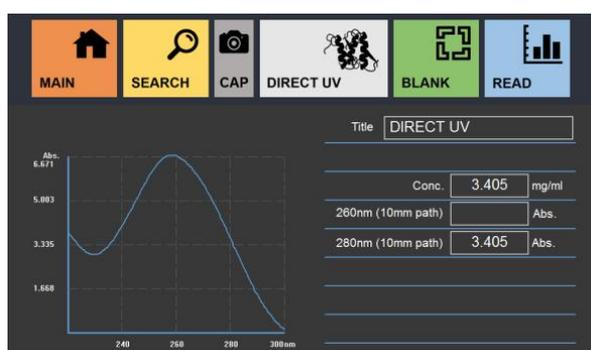

Fig. 3-13
1. Select the Direct UV measurement interface (Fig. 3-13).